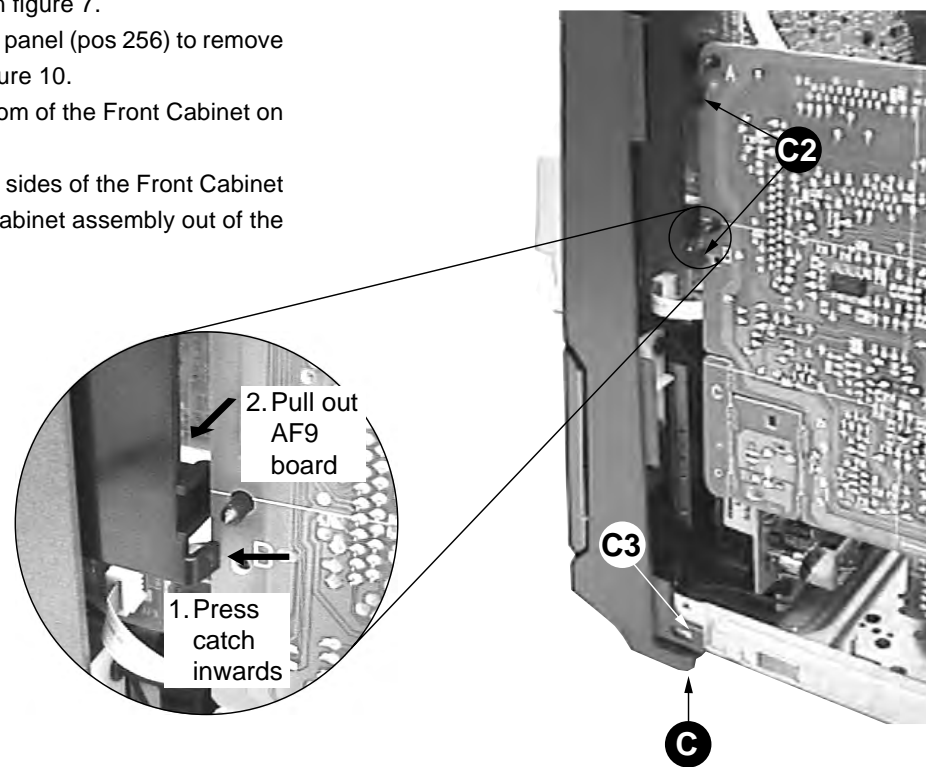

Figure 7
- 1) Release 2 catches C2 to free the AF9 board from the Front Cabinet Assembly as shown in figure 7.